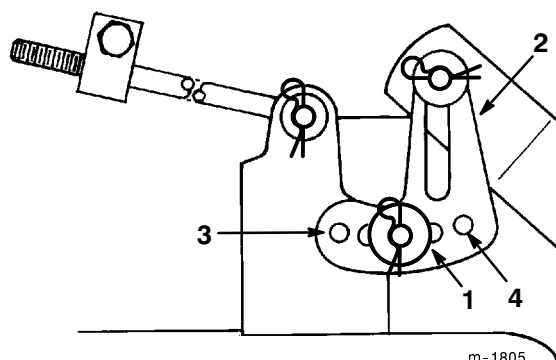

Figure 45
5. Remove the hair pin cotter and washer from the leveling bracket (Fig. 45). To level the blade(s), reposition the leveling bracket in a different hole and install the washer and hair pin cotter. (Fig. 45). A front hole lowers the blade height and a rear hole raises its height. Repeat this procedure on the opposite side.